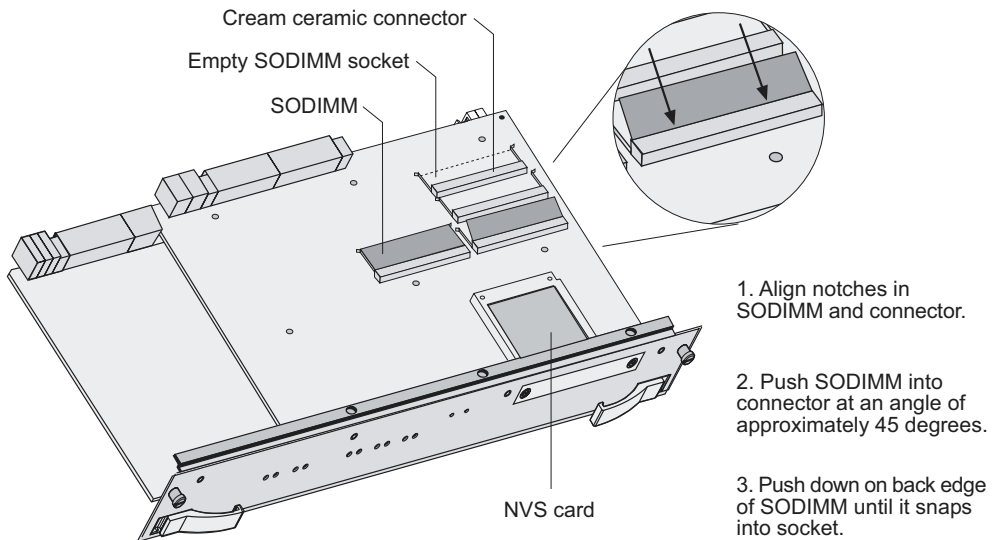
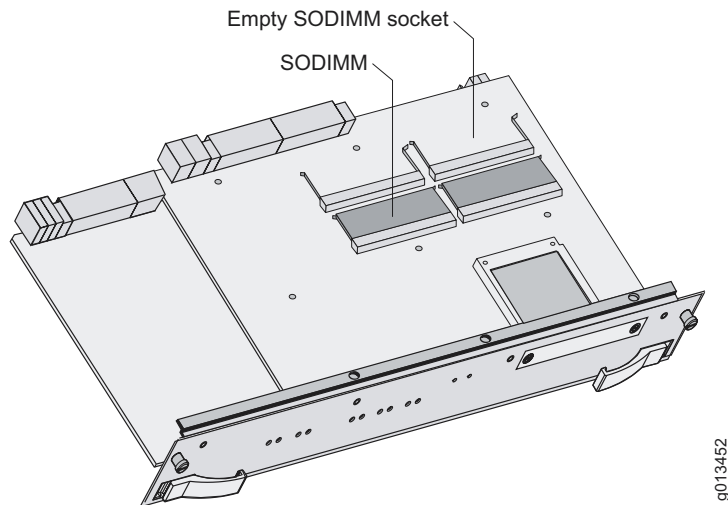

Figure 9-2 SODIMM sockets on the SRP-5 and SRP-10 module
Figure 9-3 SODIMM sockets on the SRP-40 module
- 1 Push down on the back edge of a SODIMM to release it from the socket (see Figure 9-2).
- 1 Locate the four SODIMM sockets on the SRP module (see Figure 9-2 and Figure 9-3). See the previous section to learn how to remove SODIMMs.